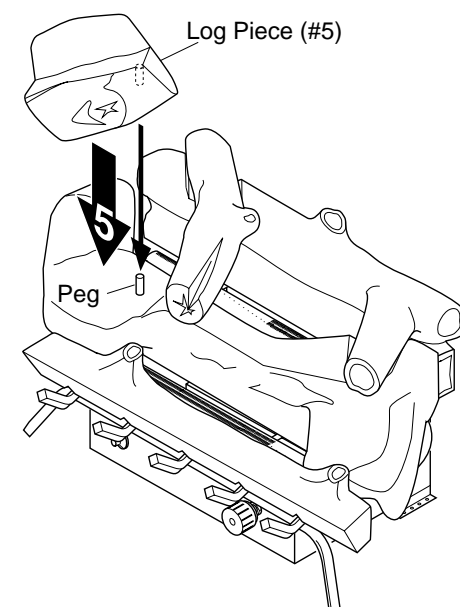

Figure 27 - Installing Log Piece (#5)
5. With knot to right side, place smaller log piece (#5) over the pin on the left side of the middle log. The smaller log will rest on front log against the "knot" on the left. See Figure 27.